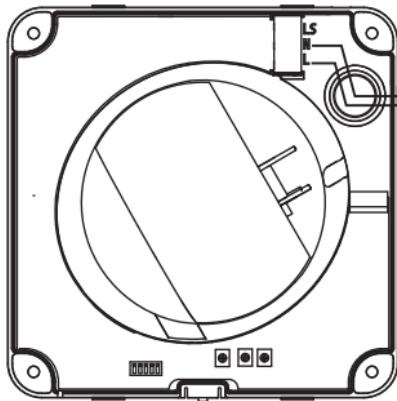

Fig.3
1. Continuous operation on trickle setting only (Fig. 3). Once the air volume is set, the fan is connected to the mains and the unit will operate continuously at this air volume.